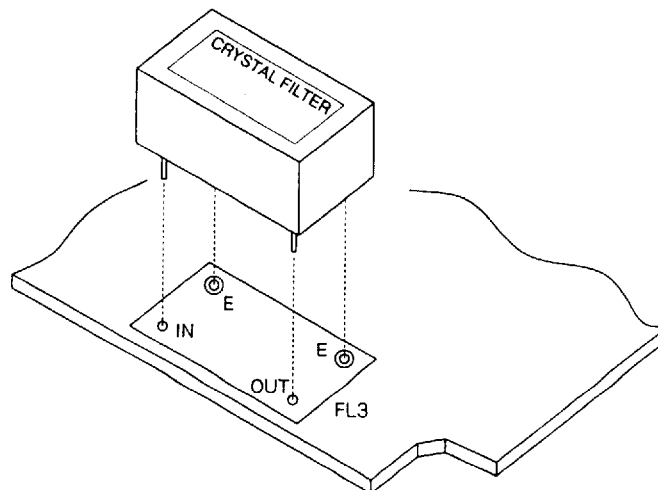

Figure 5-31 How to install the crystal filter
2. Solder the crystal filter to FL3 on the TX/RX Board as shown in Figure 5-31.